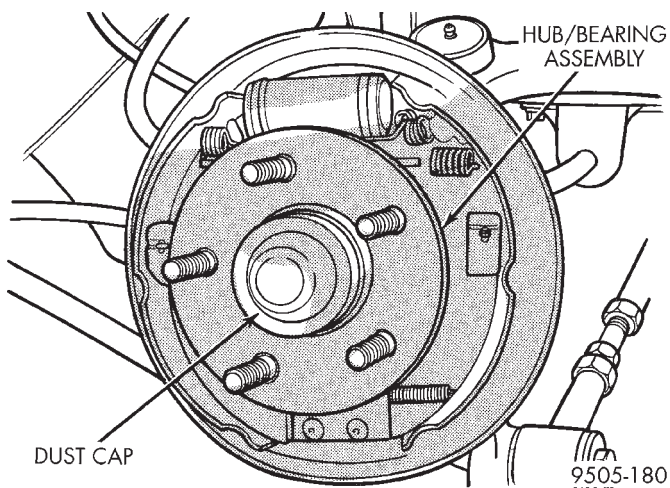

Fig. 123 Hub And Bearing Dust Cap
- (1) Raise vehicle on jackstands or centered on a hoist. See Hoisting in the Lubrication and Maintenance section of this manual.
- (2) Remove rear tire and wheel assembly from vehicle.
- (3) Remove the dust cap from the rear hub and bearing assembly (Fig. 123).